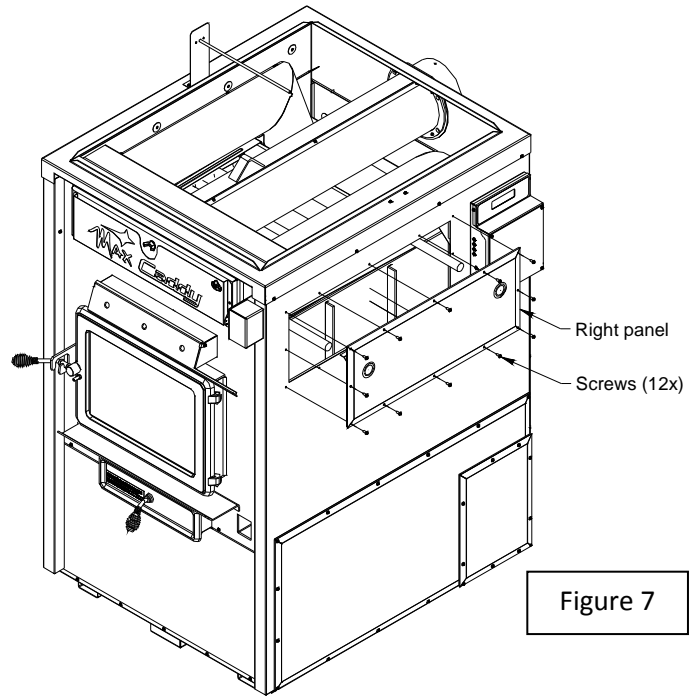

Figure 7
Step 5: Insert then slide the inlet and outlet tubes of the assembly through the grommets and secure the panel to the furnace using the screws removed in step 2. (Figure 7)